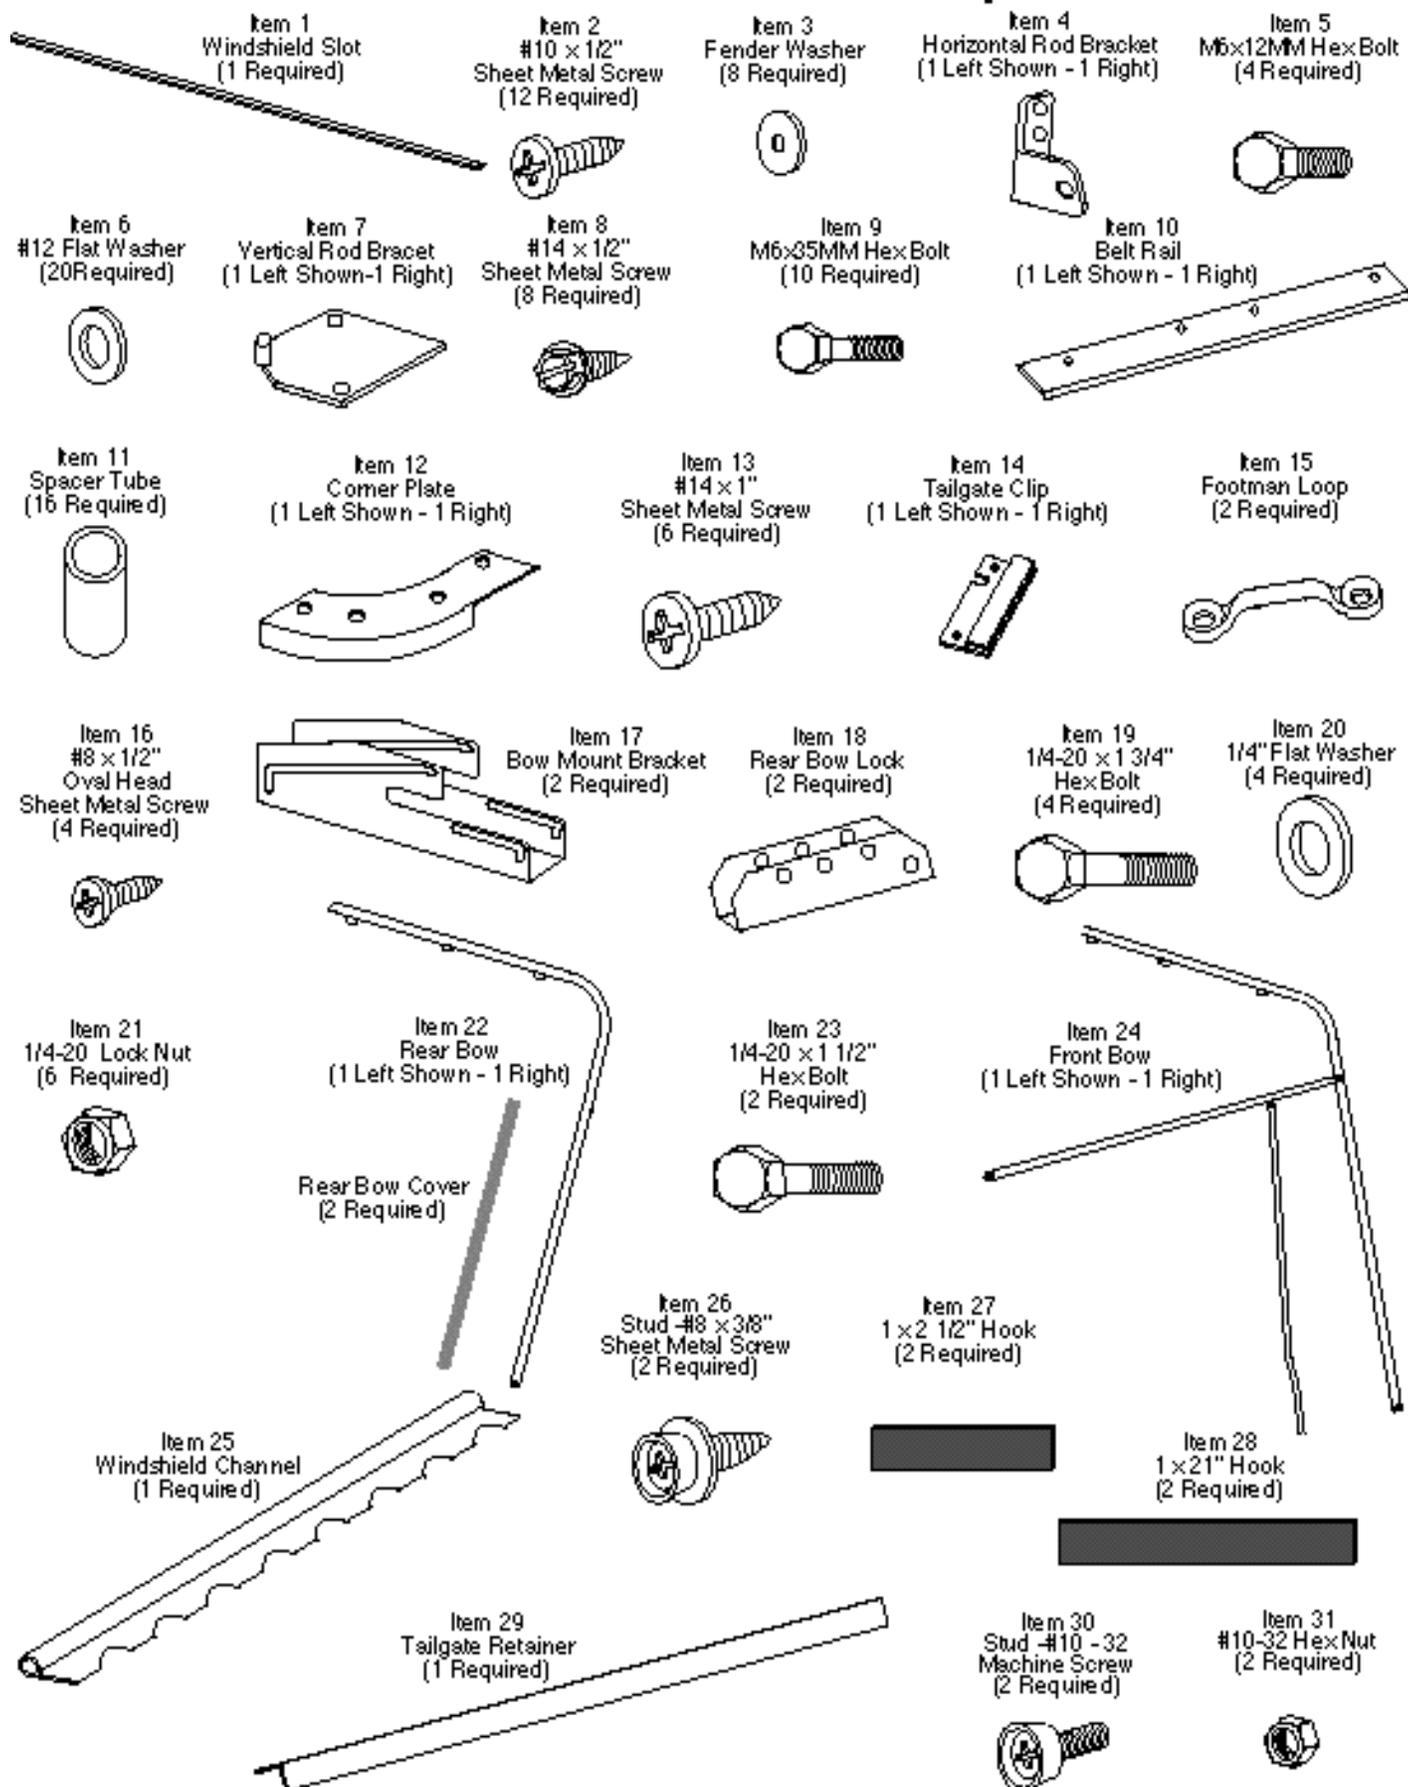

**Figure 7**
**Step 6. Rear Bow And Bow Lock.** Mount the rear bow lock bracket (Item 18) through the rear slot of the bow mount bracket. Place 1/4-20 x 1 3/4 " bolt (Item 19) through 1/4" flat washer (Item 20) into the bow mount through the rear holes in the bow release bracket then through the other side of the bow mount and another 1/4" flat washer. Fasten with 1/4-20 locknut (Item 21). These items must pivot, so tighten only enough so that they will still function. Slip bow covers over rear bow halves (Item 22). Slide rear bow halves together (Item 22). Install rear bow to center hole in bow lock bracket with 1/4-20 x 1 1/2" hex bolt (Item 23) through bracket, rear bow, and the other side of the lock bracket. Secure with 1/4-20 locknut. These items must pivot so do not overtighten. Repeat for other side. See figure 7
**Step 7. Front Bow.** Slide front bow halves (Item 24) together and place into bow mount making sure that the vertical rod is over peg on vertical rod bracket and turn fastener on horizontal rod is secured to horizontal rod bracket. Assemble using 1/4-20 x 1 3/4" bolt through 1/4" flat washer then through one side of bow mount, through front bow, through other side of the bow mount. Secure using another 1/4" flat washer and 1/4-20 locknut. Once again these items must pivot . Repeat for other side. See figure 7.